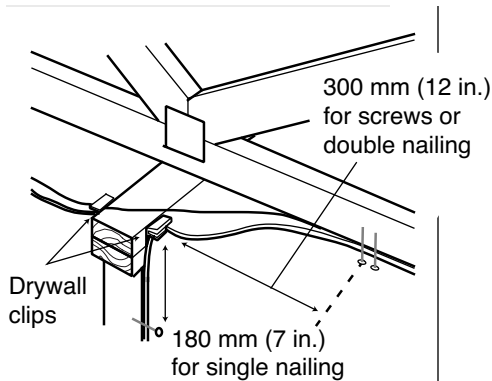

FIGURE 26
- ◆ Floating the corners will hide the effects of truss uplift (see Figure 26). This technique involves keeping the fasteners for both the ceiling drywall and the partition wall drywall away from the corner joint. This uses the natural flexibility of the drywall to allow uplift of 50 to 75 mm (2 to 3 in.) to occur without cracking the corner joint. Recommended float distances are 300 mm (12 in.) for 12-mm (1/2-in.) ceilings; 400 mm (16 in.) for 16-mm (5/8-in.) ceilings; and 200 mm (8 in.) for partition walls. With floating corners, double the first row of fasteners to prevent pull-through. The stress on corner joints can be reduced by holding the ceiling drywall to the top plate with drywall clips, with wood blocks, or with wider top plates and strapping.